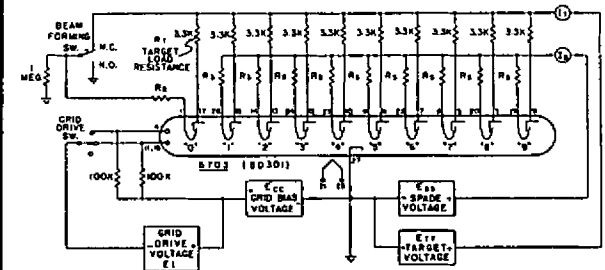

Figure 6
2. Under the specified test conditions in the test circuit, Figure 6, the tube will be clear and no output current will be produced, when all of the spades are at the spade source potential. As long as the spade source potential does not exceed the Firing voltage (Note 4), a beam will not form spontaneously. Output current may be produced by forming a beam in the tube by lowering the potential of one spade to cathode potential. Once formed, the beam will not clear as long as the spade source voltage exceeds the specified minimum. With the potential of the switching grids at the specified minimum, the beam will not switch if the spade source voltage does not exceed the specified maximum.
5. The tube is a constant current device having pentode type output characteristics. For a fixed value of spade voltage, output current at a given output is constant over a wide range of target voltage; however, because of normal manufacturing tolerances, the amount of target current can vary from target to target. With the tube operating in the test circuit, Figure 6, and with the spade and target supply voltages fixed at 100 volts, the target and cathode current measured with the beam at each of the ten targets must be within the specified limits.